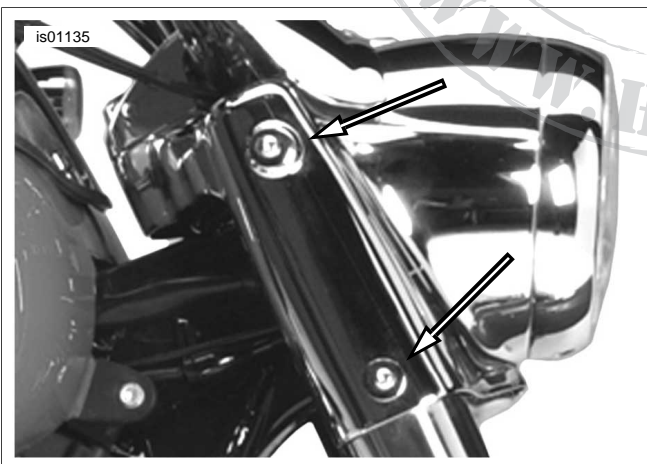

Figure 2. Typical Mounting Screw Locations (FLHRS)
5. See Figure 2. *For FLHRS models:* Remove and discard original mounting screws (1). Repeat for other side. Remove handlebar mounted turn signals, acorn nuts, internal tooth washers, signals, and mounting blocks from handlebars. Install original acorn nuts and internal tooth washers to secure mirrors.